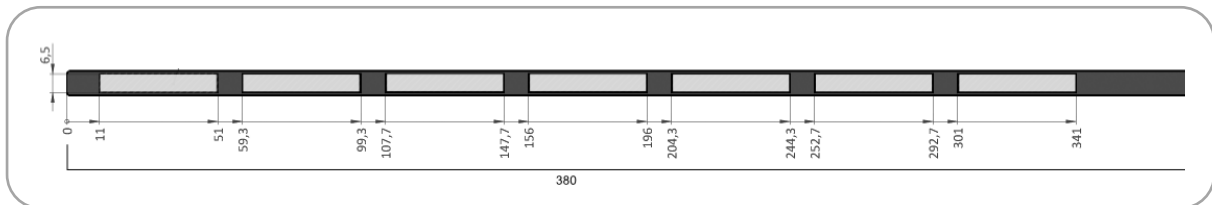

Figure 15: Labelling strip
- The dimensions (given in mm) are shown in Figure 15. There are seven printable areas each measuring 6.5 mm in height and 40 mm in length. The gap on the left side is 11 mm and the gaps between the areas are 8.3 mm.